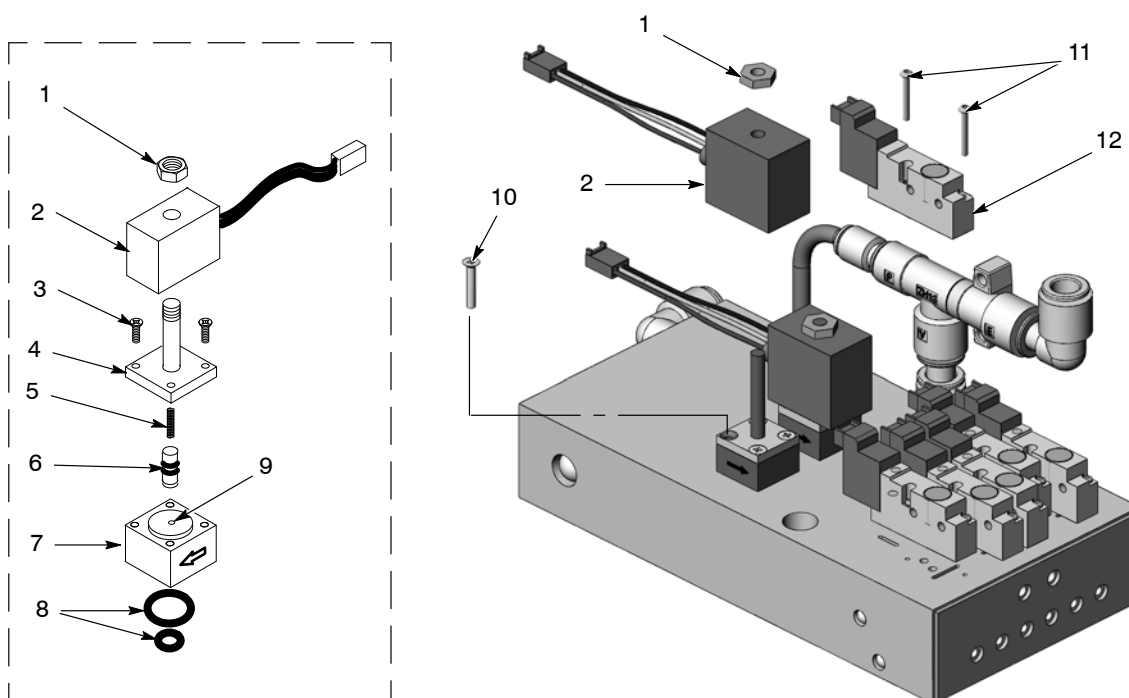

Figure 6-1 Manifold Repair
1. See Figure 6-1. Remove the nut (1) and coil (2) from the flow control valve.
2. Remove the two long screws (10) to remove the flow control valve from the manifold.
See Figure 6-1. Remove the valve by removing the nut (1), coil (2), and long screws (10).
See Figure 6-1. To remove the solenoid valves, remove the two screws (11) in the valve body and lift the solenoid valve (12) off the manifold.